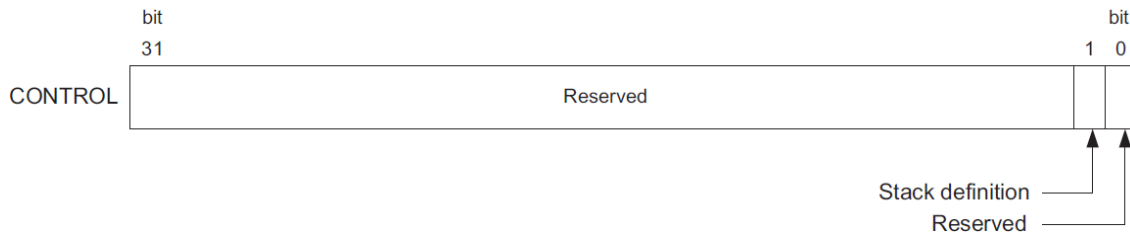

Figure 10: CONTROL
i. Physically there are two stack pointers in the Cortex-M0 processor, but only one of them is used at one time, depending on the current value of the CONTROL register as shown in the Figure 10.